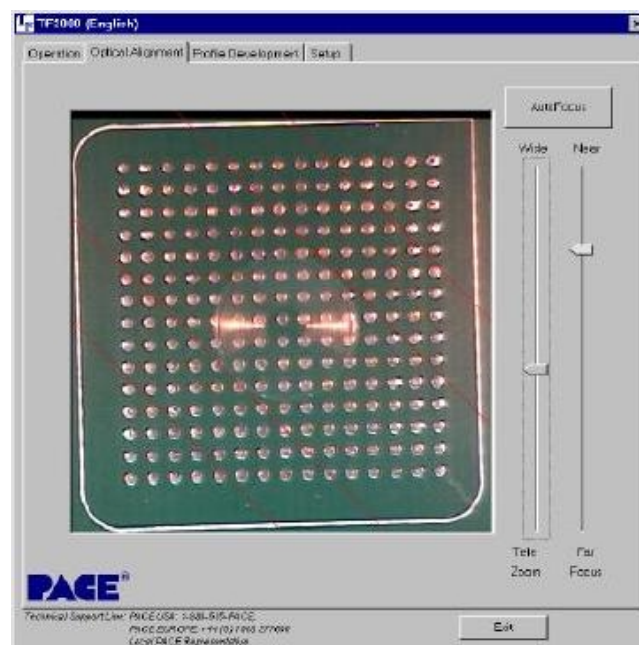

Figure 22: Skewed Land pattern
- 4) Observe land pattern. If land pattern is skewed, proceed to step 5. See figure 22. If land pattern appears aligned, omit steps 5-7.